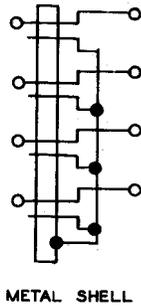

Fig. 13—315A or B, or 316A Plug
2.12 **315A and B, and 316A:** The 315A and B, and 316A (Fig. 13) are four finger plugs with the sleeves and shells connected together to form a shield for the tip conductors. The plugs are used with four 218A- or similar-type jacks, or two 410-type jacks, when mounted on 0.625 inch centers on 230D- or similar-type jack mountings.